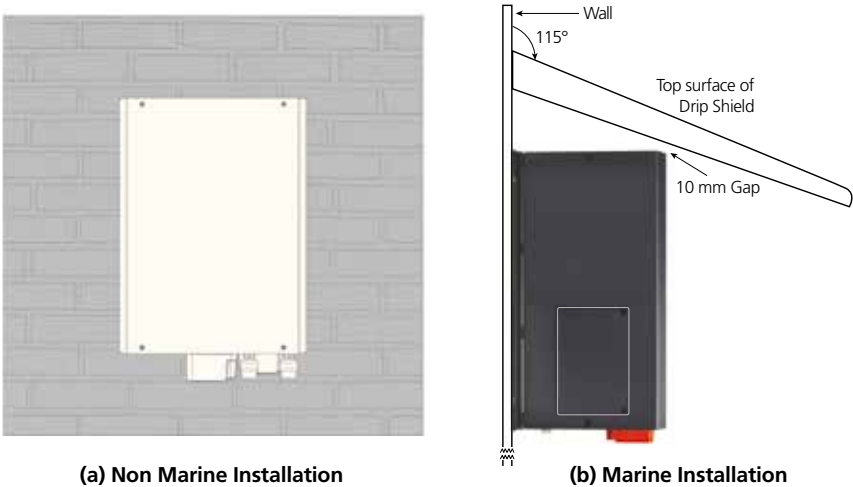

Fig 3.4 Mounting Arrangement 2: On Vertical Surface
- Mount vertically on a vertical surface, see Fig. 3.4. Protect against possibility of small objects or water entering the ventilation openings on the top. (If necessary, install a suitable sloping guard at least 200mm from the top surface). Also, ensure there is no combustible material directly under the unit.